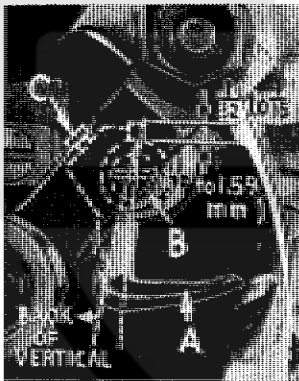

Fig. 9
Insert upper looper (A, Fig. 9) or upper spreader in its holder. Screw (B) holds the upper looper or spreader in its holder, and permits the upper looper or spreader to be pushed in or out, or turned around its shank. Insert upper looper or spreader holder into shaft, if not already in place. Screw (C) in clamp collar holds upper looper or spreader holder in the shaft, and allows holder to be rotated or adjusted laterally.
When the upper looper or spreader is at the right end of its stroke, the upper looper or spreader holder should be set to position the upper looper or spreader shank slightly back of vertical (Fig. 9). Top end of the upper looper or spreader shank should extend  $1/32$  to  $1/16$  inch (.79 to 1.59 mm) above the upper looper or spreader holder (Fig. 9) on Styles 39500 QG, SD and TC. This dimension should be  $1/16$  to  $3/32$  inch (1.59 to 2.38 mm) on Style 39500 RN.